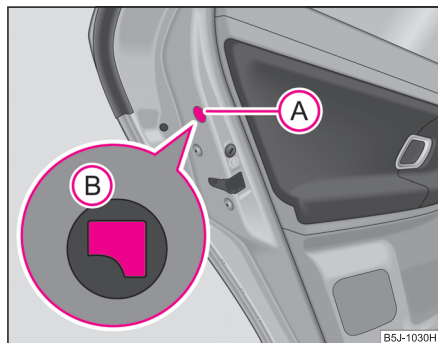

Fig. 24 Emergency locking of the door
- Remove the panel (A) ⇒ fig. 24.
- Insert the key into the opening under the panel and press the stopping lever (B) as far as the stop toward the inside.